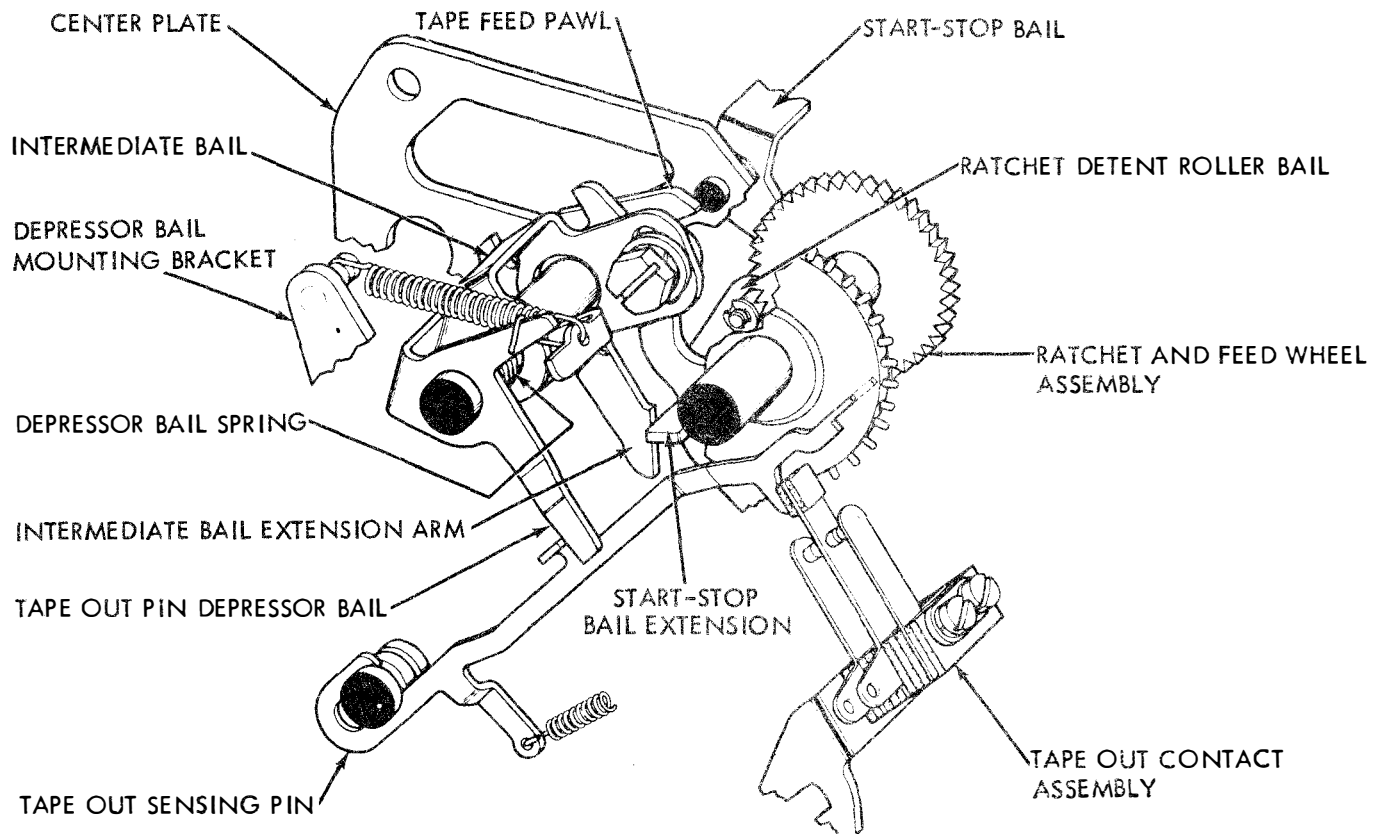

Figure 19 - Free Wheeling and Tape Out Mechanisms
2.32 Free wheeling feed wheel (Figure 19). The control lever is operated the same as in Par. 2.31 except that the lever is pushed to the extreme left position and the extension on the start-stop bail pushes the feed pawl and the ratchet detent roller away from the feed ratchet allowing the feed wheel to rotate freely. The bail extension also cams the intermediate bail extension arm which rotates the intermediate bail. The intermediate bail, in rotating, permits the spring loaded tape-out pin depressor bail to follow. The depressor bail, with its operating mechanism, is mounted on a bracket. The bracket is, in turn, mounted on the front plate. The result of this camming action is the depressing of the tape-out sensing pin to a flush or below flush condition relative to the tape guide plate. This permits free passage of the tape under the tape lid.
2.34 Tape-out sensing pin (Figure 19) is located on the tape guide plate to the right and slightly forward of the eight tape sensing fingers. With the tape-out pin in the depressed position, the swinger on the tape-out contact assembly is released and its contacts closed. The unit will then transmit if the series wired start-stop tight tape contacts are closed. Therefore, when tape is in the unit with the tape lid closed, the tape holds the tape out sensing pin in the depressed position and allows the unit to run. When no tape is sensed the spring loaded sensing pin travels upward and into a hole provided in the tape lid. An extension on the pin engages the swinger on the tape out contact assembly pushing the swinger up opening its contacts. This interrupts the clutch magnet circuit so that transmission ceases.